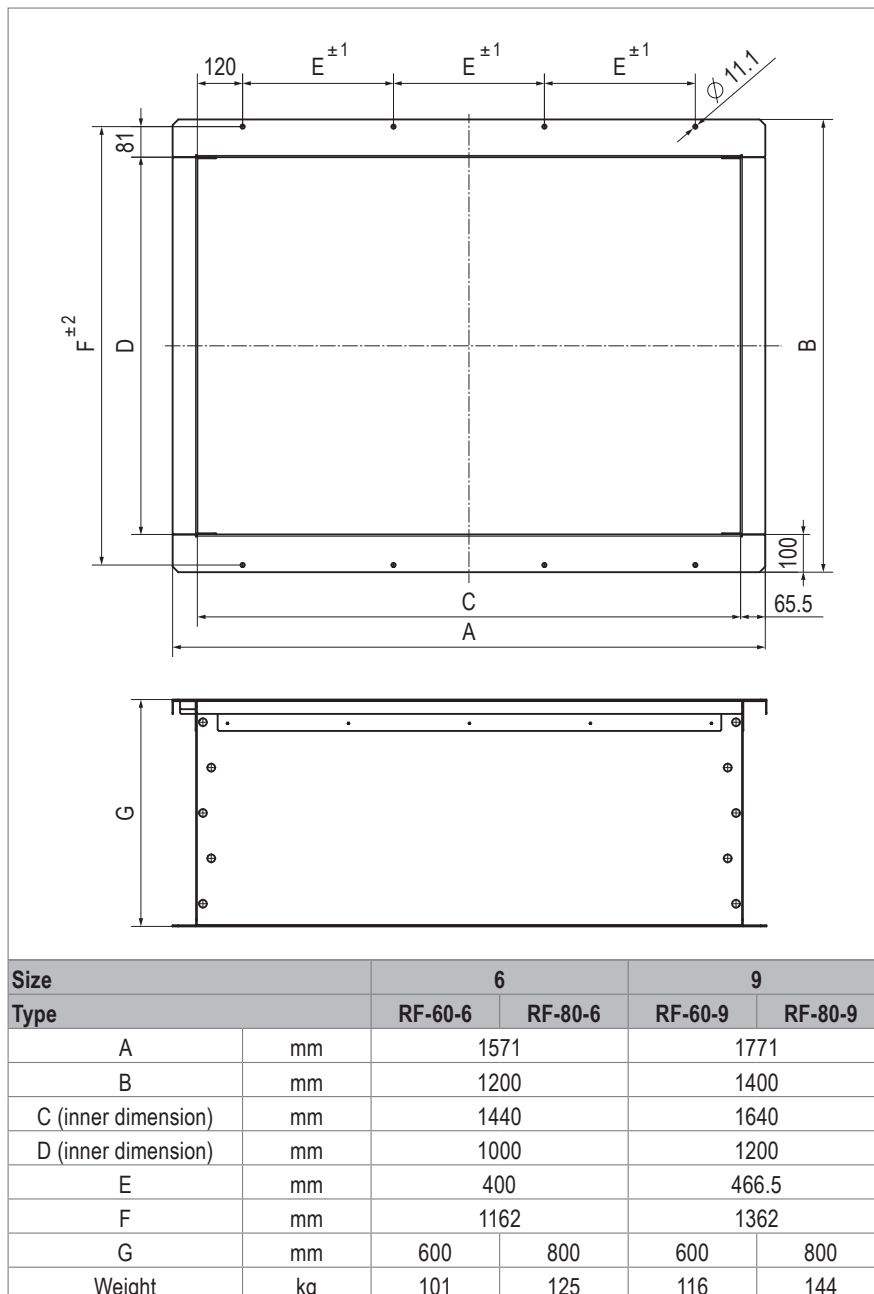

Fig. H9: Roof frame dimensions and weights
- The supporting surface must correspond to the specifications in Fig. H9 on page 109.